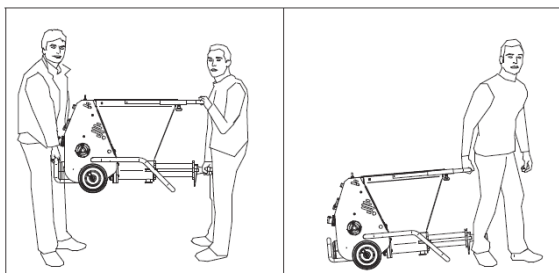

FIG.3
8. DESPLAZAMIENTO DE LA MÁQUINA (fig. 3/4)